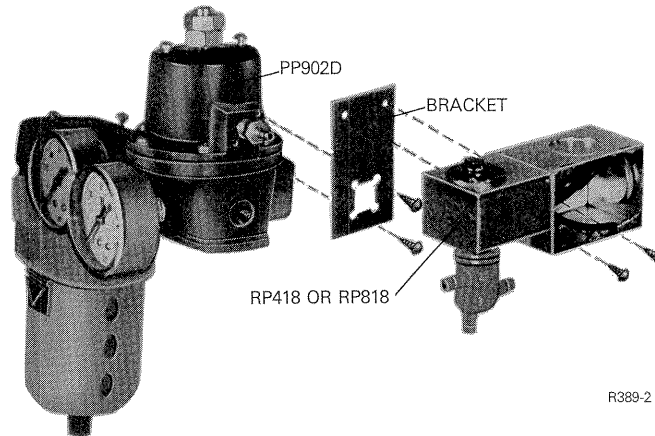
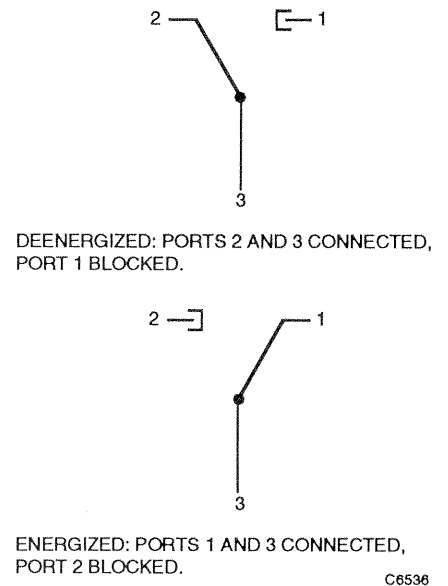

Fig. 3. RP418 or RP818 Installation Using the 14003638-001 Adapter Kit.
Fig. 4. PR418 and RP818 Pneumatic Schematic.
1. Install the desired switchover device (Fig. 3 and Fig. 4).
An RP418 or RP818 Relay can be mounted directly to a PP902D. A mounting bracket is available in the 14003638-001 Adapter Kit. When using the bracket (Fig. 3), secure the bracket to the relay using the mounting holes in the splice box. To mount the bracket and relay assembly, use the holes in the valve body.
All pneumatic piping connections on the RP418 and RP818 are sized for 1/4-in. (6-mm) O.D. polyethylene tubing. See Figures 4 and 5 for piping information.